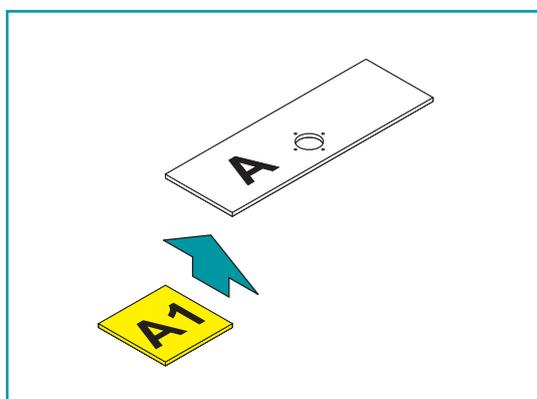

figura 2
2.2.1 Monte el panel A1 al panel A (figura 2)